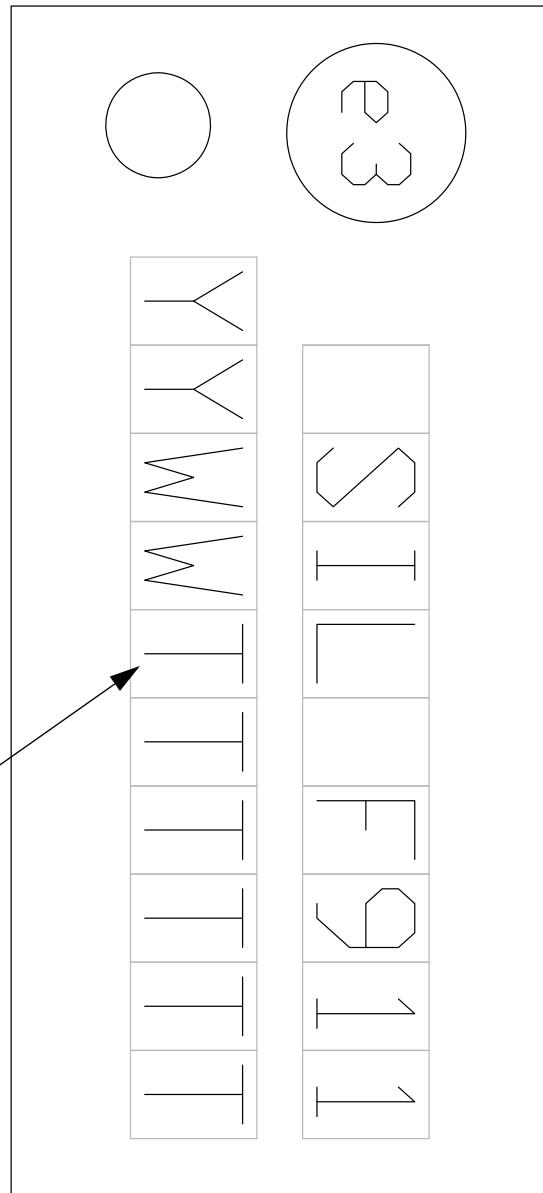

Figure 3.4. QSOP-24 Package Marking Diagram
- Starting with silicon revision C, the ordering part numbers have been updated to include the silicon revision and use this format: "C8051F912-C-GM". Package marking diagrams are included as Figure 3.3 and Figure 3.4 to help identify the silicon revision.